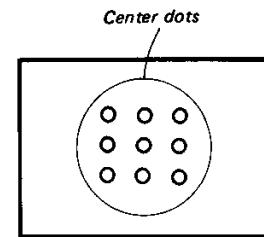

Figure 1-4
- 12) Observe the center of screen and if dots are distorted, adjust the above two magnets for the finest round as Fig. 1-4.